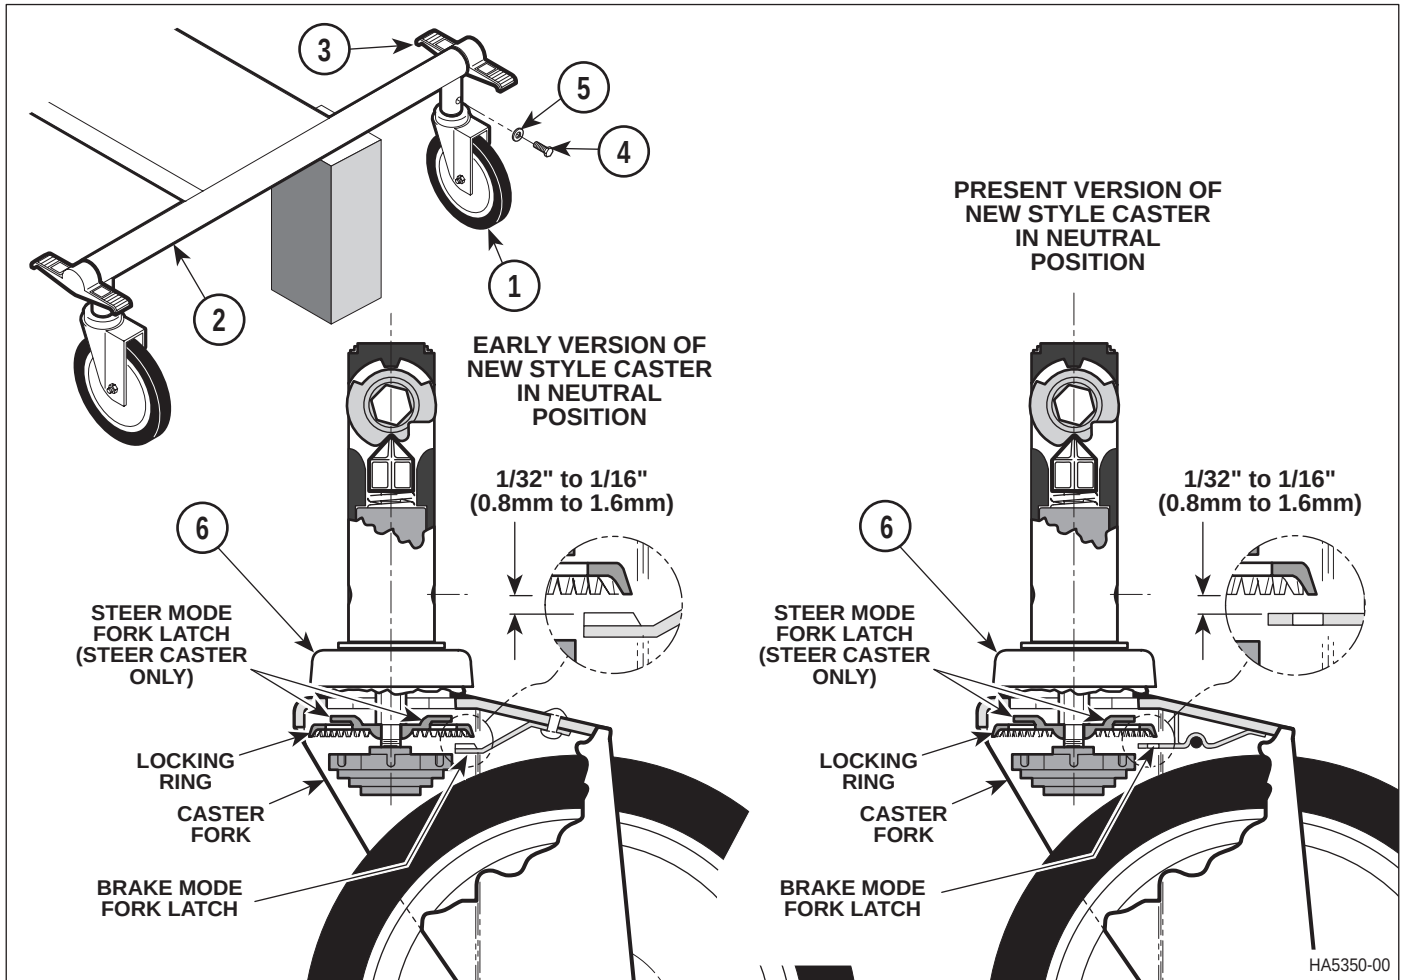

Figure 4-26. Caster Fork Controls Adjustment (New Style Caster Only)
- (1) Lift caster (1, Figure 4-26) which needs adjusted, off of the floor approximately 1 in. (2.5 cm). Place a support under chassis (2) to hold caster at that height.